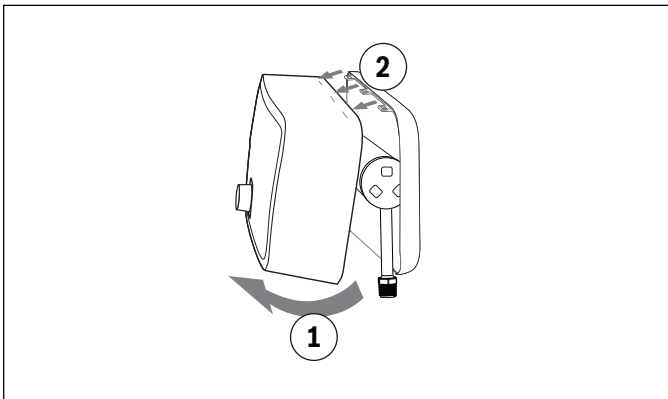

Figure 5
7. Position the unit on the mounting surface. Ensure the unit is level. Mount the unit to the wall with four (4) screws of at least one (1) inch in length (installer supplied) at the marked points. See Figure 5.